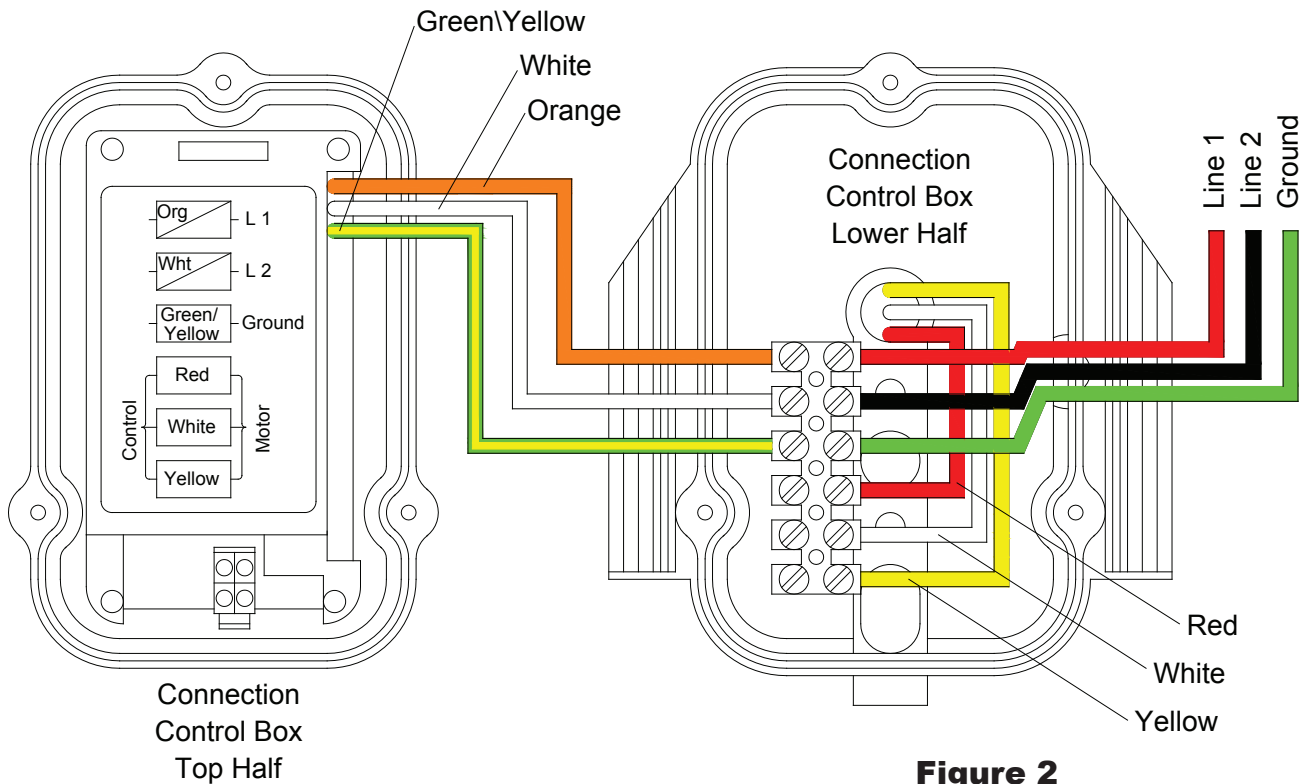

Figure 2
1. Remove the three screws holding the top control enclosure onto the motor. Carefully lift the top panel and turn it over to expose the inside terminal box. See Figure 2
3. The right side of the terminal block will be marked ground, L2, and L1. See Figure 2
4. After running L1, L2, and ground wire from conduit, connect the L1 to the opening directly across from the **orange** wire on the terminal block. See Figure 2
5. Connect L2 to the opening directly across from the **white** wire on the terminal block. See Figure 2
6. Connect the ground wire to the opening directly across from the **green/yellow** wire on the terminal block. See Figure 2